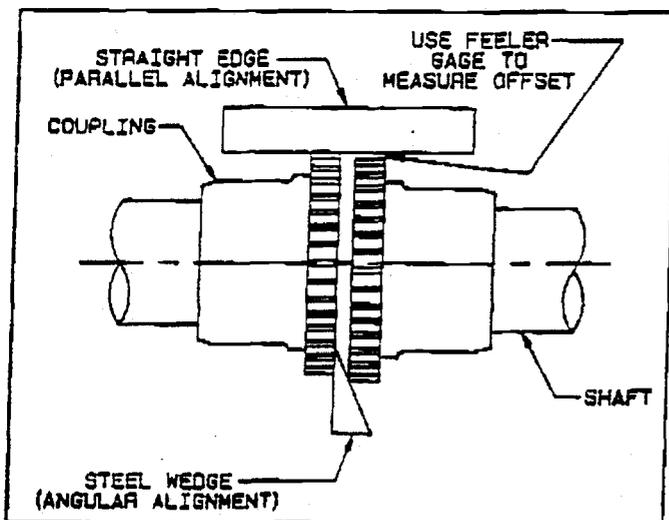

Figure 2
- Align the coupling to within the manufacturer's limits for parallel and angular misalignment (see Figure 2). A dial indicator can also be used for alignment where greater precision is desired. Adjustments should be made by moving the motor to change shaft angle, and by the use of foot shims to change motor shaft height. Do not move the fan shaft or bearing.